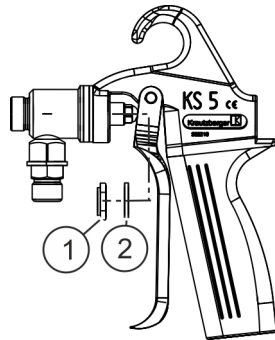

Fig. 17: Remove hexagon nut and insulating washer
1. ➤ Unscrew hexagon nut (Fig. 17/1) and remove together with the insulating washer (Fig. 17/2).